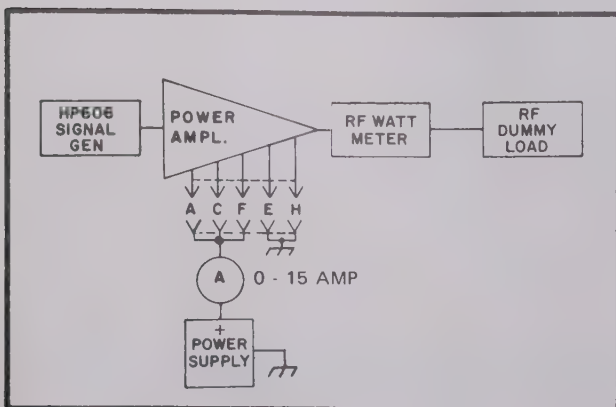

Figure 5.4 Power Amplifier Test Setup
5.8.4.2 For servicing the power amplifier, it is desirable to use an external power source capable of 28VDC at 12 amperes, continuously variable from 0 to 28 VDC. If such a power source is not available, the transceiver power supply can be used. A typical test set up is shown in Figure 5.4.
5.8.4.7 When transistor replacement is complete, test the power amplifier per test setup shown in figure 5.4. Apply D.C. power and slowly increase signal generator drive until 100 watts is shown on the wattmeter. The ammeter should indicate approximately 8.5 amperes. Allow the amplifier output to